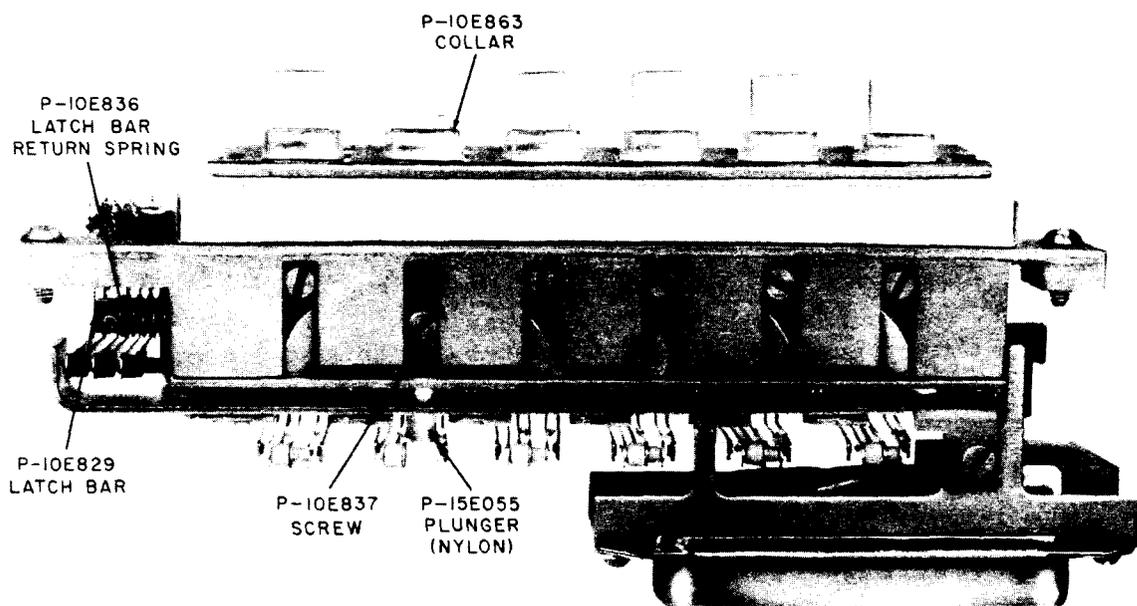
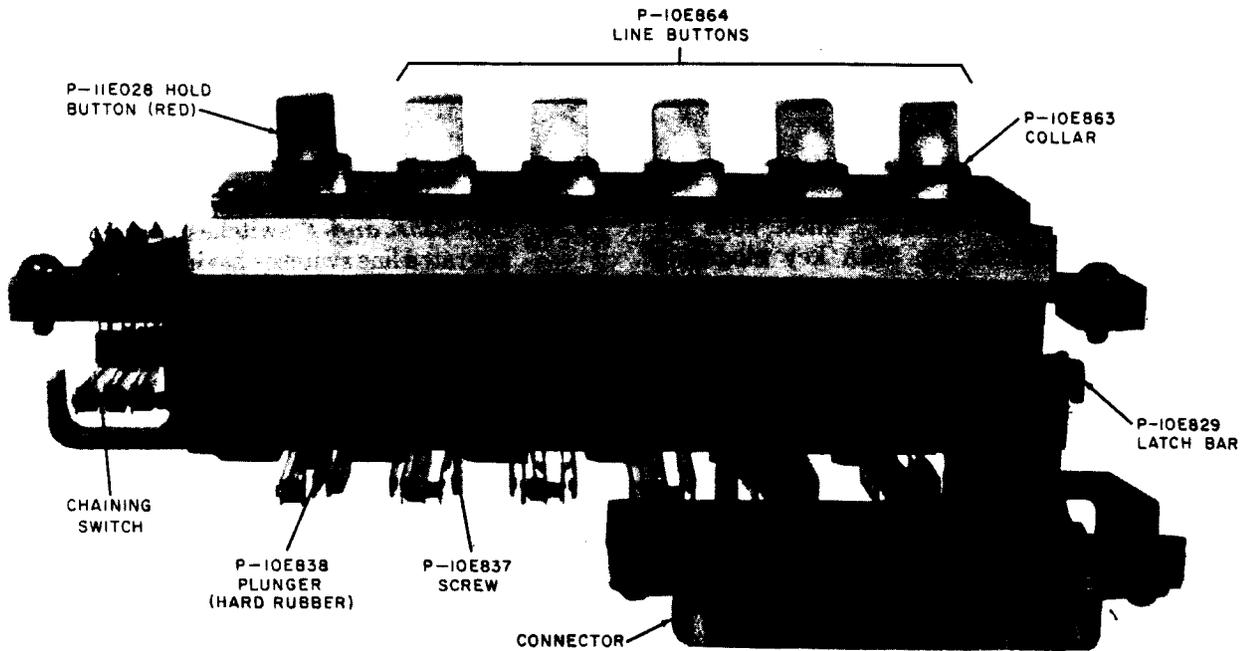

Fig. 10—598-Type Key
Fig. 11—599-Type Key
**2.32** The *598-type* (Fig. 10) and *599-type* (Fig. 11) keys are modular key units having various mechanical and electrical features. These keys are designed for mounting in the 396A key mounting and are used with mounting cords equipped with 50-pins KS-type connectors. Refer to Section 512-230-100 covering modular keys for further information on 598- and 599-type keys. Section 512-210-401 shows schematics for these keys.